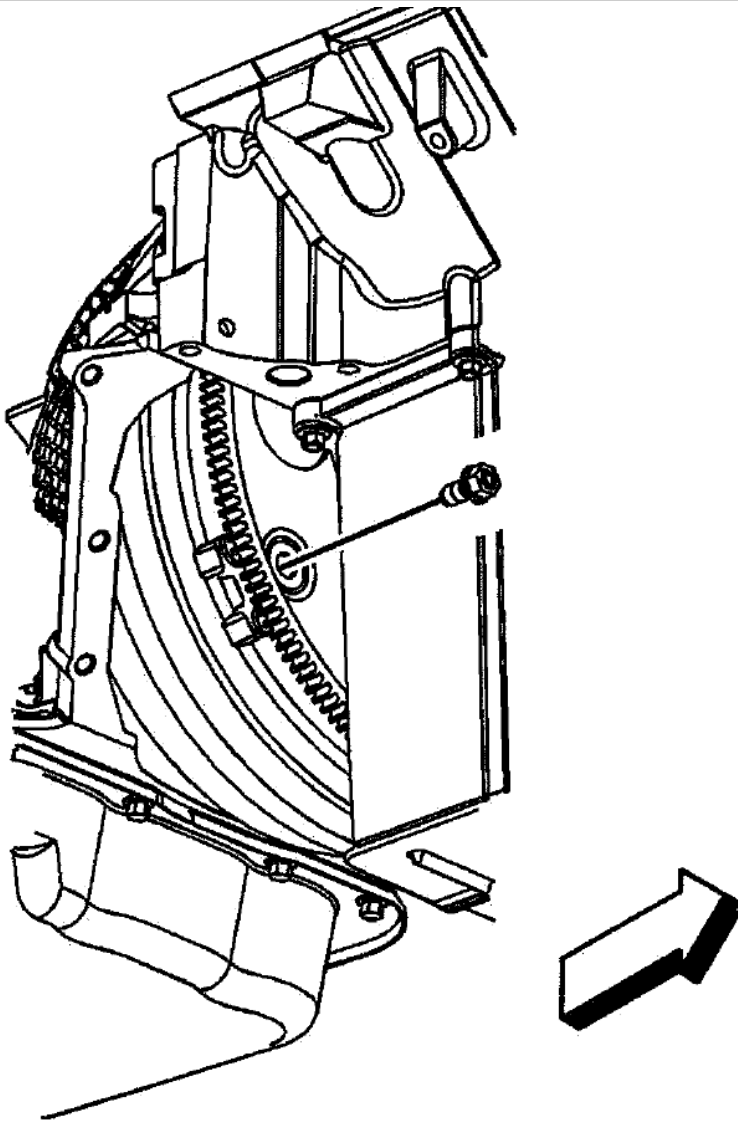

FIGURE 2
6. Install torque converter attachment bolts as shown in Figure 2, through starter hole. Install one bolt hand tight, rotate engine install next bolt hand tight, rotate engine, install last bolt. Torque to 65 Nm (48 lb-ft). Rotate engine to torque remaining bolts. If rotating engine using crank balancer bolt, rotate only in clockwise direction (as standing in front of engine). The crank balancer bolt should only be turned in a "tightening" direction. Note: if re-using torque converter bolts, clean the bolt threads and apply sealant.